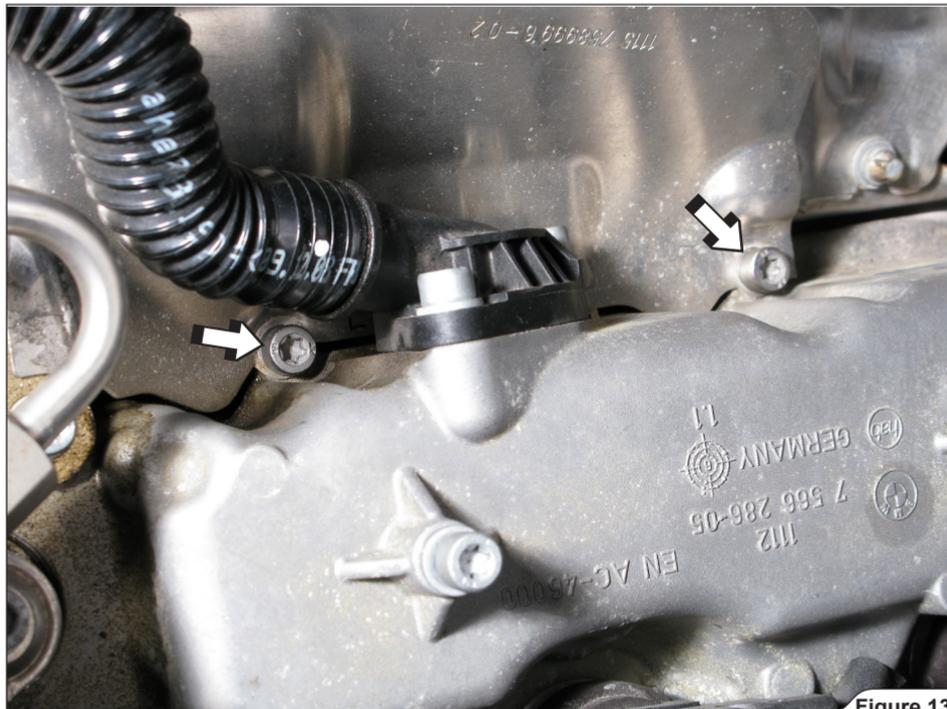

Figure 13
13. **For optional Down Pipes only:** unscrew marked bolts and remove aluminium plate on both sides of the engine (Figure 13).